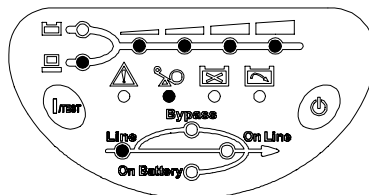

Fig 4-6 Overload and UPS turn into Bypass
- **OVERLOAD:** If the load exceeds the UPS rating, after a limited period, the overload LED will light on and buzzer continuous beeping to alarm the user. The user should unplug some uncrucial loads to release the overload condition. Shown as fig 4-6.